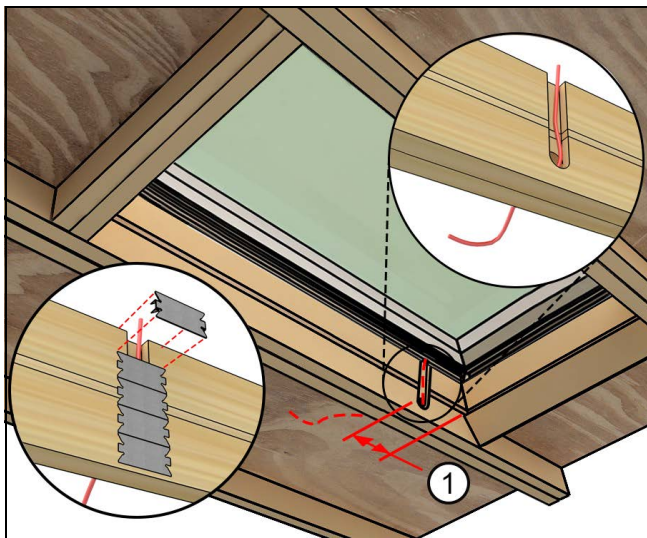

Figure 31
4. If installing an **Awaken product**, create a notch in rough opening for the power wire as needed. The center of the notch is nominally 1-3/8" to the sill RO edge. See Figure 31. Create notch large enough to run Romex cable per applicable electrical specification. Notch can be covered with plates as needed. If the drywall is not installed tight into the lining groove, add on-site insulation and trim for finished appearance and to prevent conditions that may contribute to condensation. *Note: Electrician needs to meet or exceed local codes. Unshielded wire should be covered by plate, anything under 1-1/2" no plate is required. Electrical route may need to be notched.*